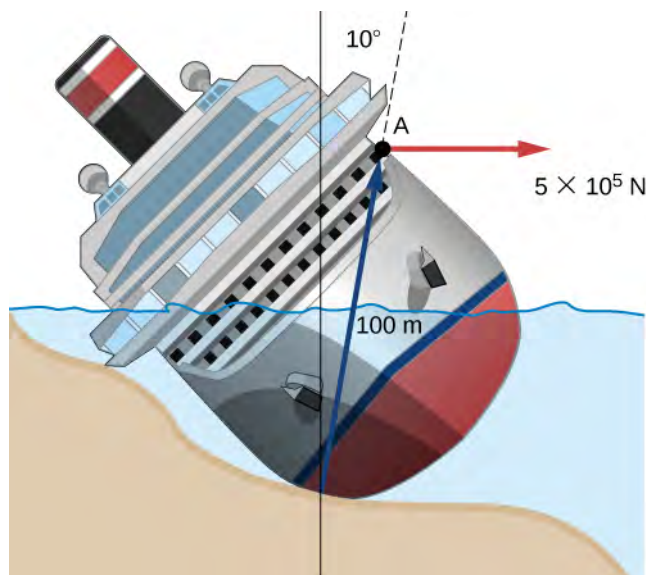

Figure 10.36 A ship runs aground and tilts, requiring torque to be applied to return the vessel to an upright position.
-  **10.6 Check Your Understanding** A large ocean-going ship runs aground near the coastline, similar to the fate of the *Costa Concordia*, and lies at an angle as shown below. Salvage crews must apply a torque to right the ship in order to float the vessel for transport. A force of 5.0×10^5 N acting at point A must be applied to right the ship. What is the torque about the point of contact of the ship with the ground (**Figure 10.36**)?